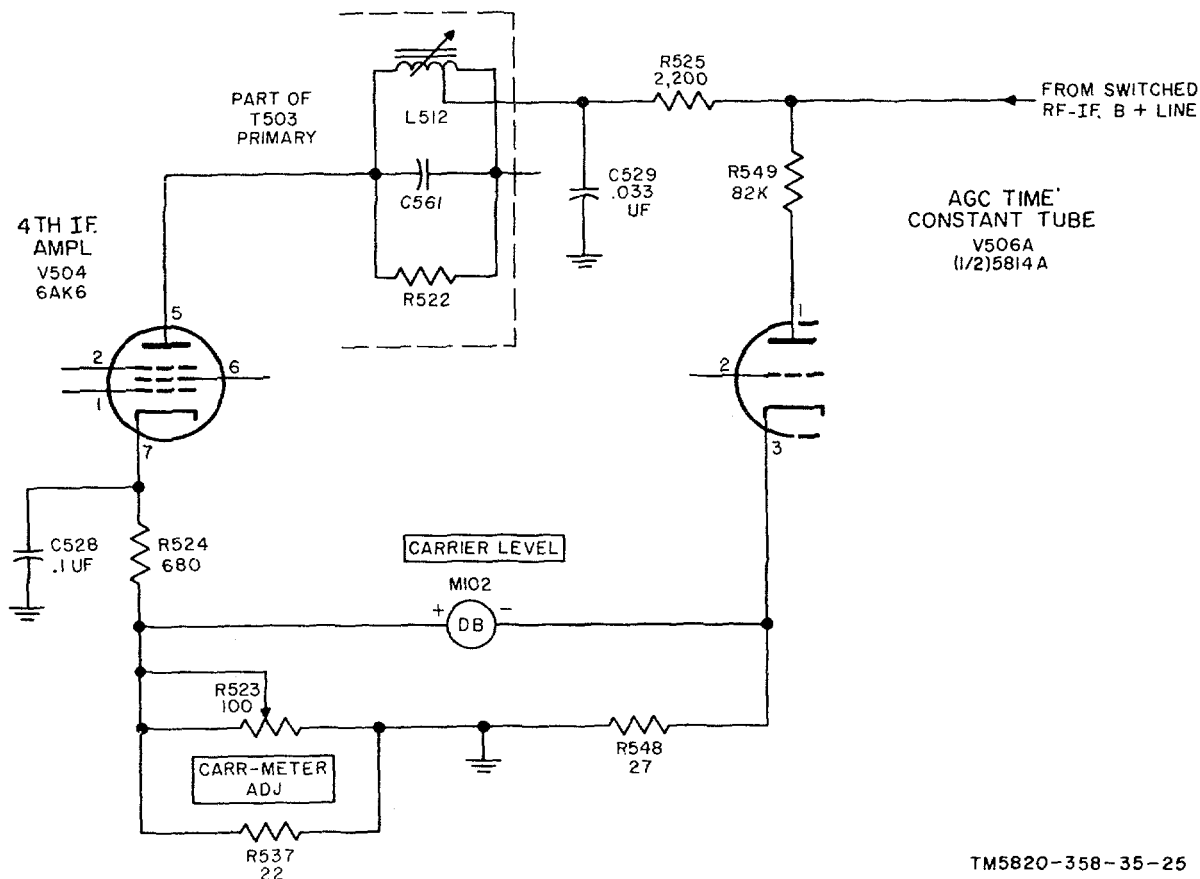

Figure 22. CARRIER LEVEL meter circuit. simplified schematic diagram.
22. CARRIER LEVEL Meter Circuit (fig. 22)